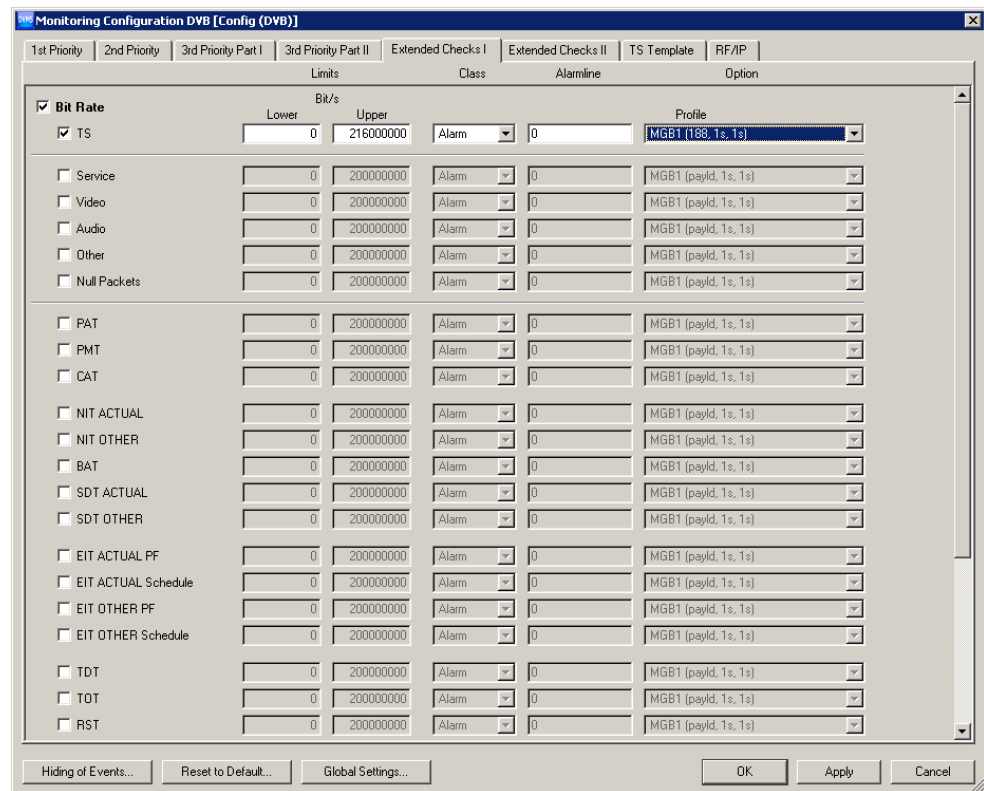

Fig. 6-1: Extended Checks I tab
- Select the "Extended Checks I" tab (see figure 6-1).